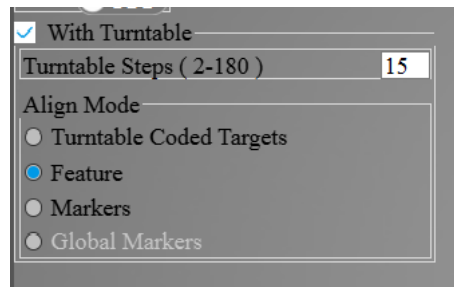

Figure 16: All turntable setting should match those in this image.
11. Below the brightness bar, the technician will then select "With Turntable". Enter 15 for "Turn Table Steps". Under "Align Mode", select "Feature" (Figure 16).